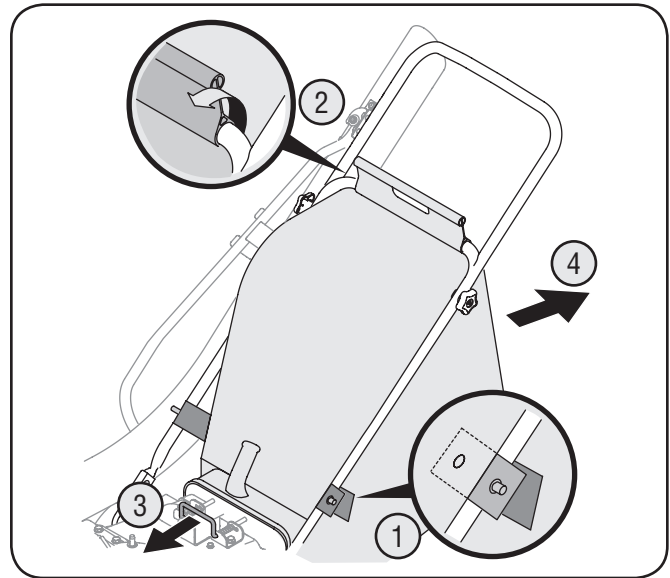

Figure 5-2
2. Unsnap bag clip from the top of lower handle. See Fig. 5-2.